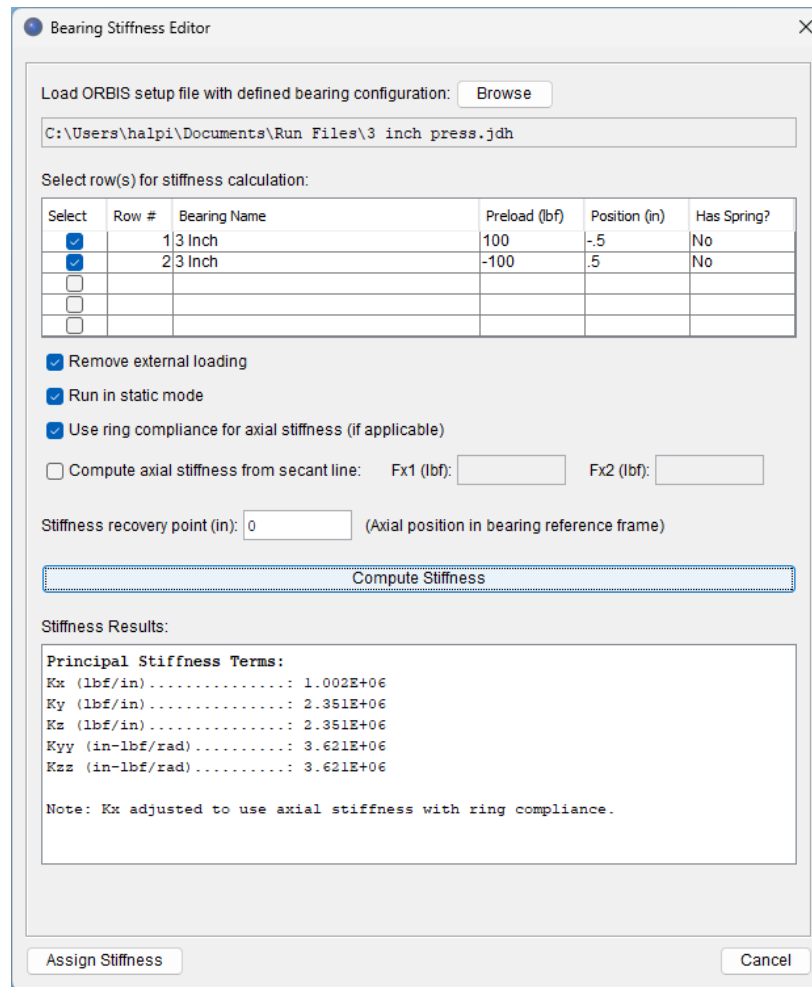

Figure 2-7. Bearing Stiffness Editor
Bearing stiffnesses can be imported into the spring editor via the Bearing Stiffness Editor (see Figure 2-7). The Bearing Stiffness Editor can only be accessed from within the Spring Editor by selecting the [\[Load Bearing Stiffness\]](#) button. When importing bearing stiffnesses, only the diagonal terms are imported, and K44, which is the torsional stiffness about the bearing rotation axis, is left blank and must be manually completed.
3. The Bearing Stiffness Editor will open (see Figure 2-7 below).